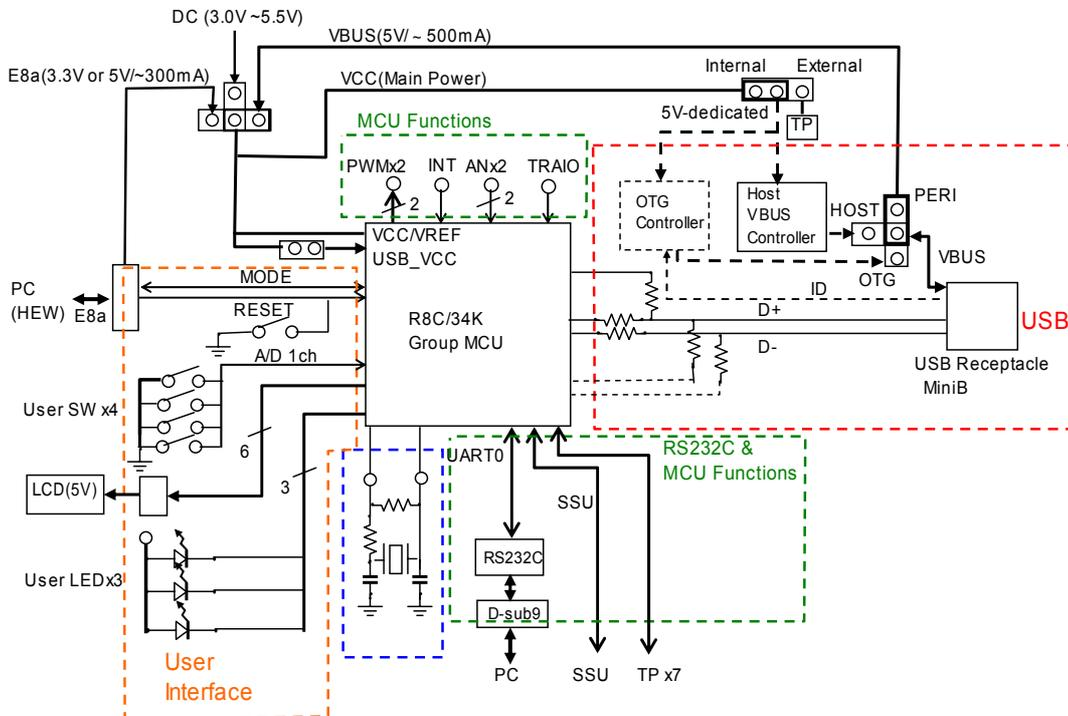

Figure 12 Evaluation Board General Function Outline
Figure 12 is a general outline of the functions on the evaluation board. The board is equipped with an R8C/34K Group MCU and provides these functions using the MCU peripheral functions with the on-board circuits listed in Table 1. Each function is described in detail below. For details concerning the MCU functions, memory map, etc., refer to the R8C/34U Group, R8C/34K Group User’s Manual: Hardware.
7.1 USB Function (Red dot line area of Figure 12)
7.2 RS232C Transmission (Green dot line area of Figure 12)
7.3 User Switches with A/D Detection (Orange dot line area of Figure 12)
7.4 User LED (Orange dot line area of Figure 12)
7.5 LCD Module Control (Orange dot line area of Figure 12)
7.6 Reset Switch (Orange dot line area of Figure 12)
7.7 Oscillator Circuit (Blue dot line area of Figure 12)